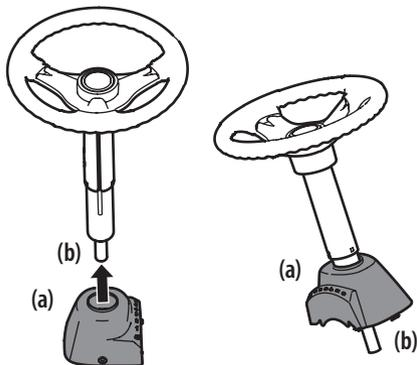

Figure 2
- Slide the pedestal cap (a) onto the steering shaft (b) so that when the steering shaft (b) is installed on the riding mower, the pedestal cap (a) will be upright as shown in Figure 2.